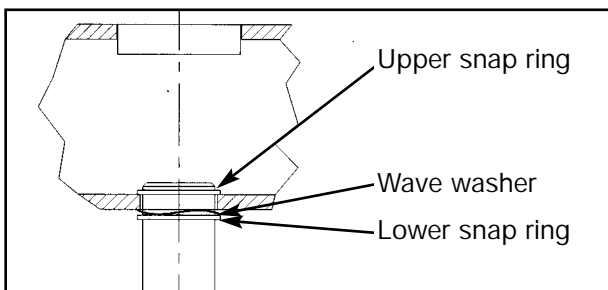

Figure 1
- Using an external snap ring pliers, slide the lower snap ring (and wave washer) down and about 2 inches from the top part of the guide rod (this will provide access to the upper snap ring). Repeat this step for the other guide rod. See Figures 1 and 2.
NOTE: Be sure wave washer is between frame and lower snap ring. See Figures 1 and 2.